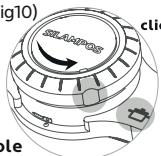

Fig. 10.1
- 4 - Turn the open/close button to the closed position - (fig10.1) ⚠